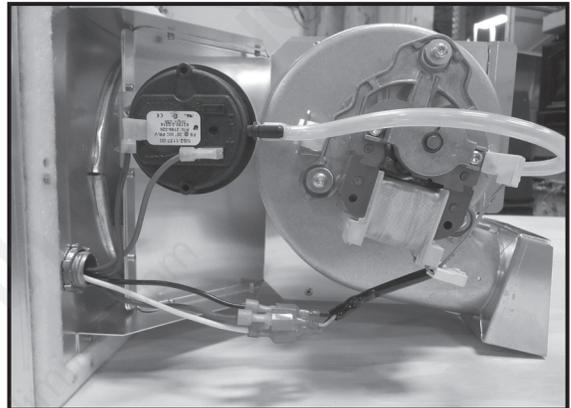

Figure 3.14
**NOTE:** After all wires are connected, the wire should look like the picture in Figure 3.14.